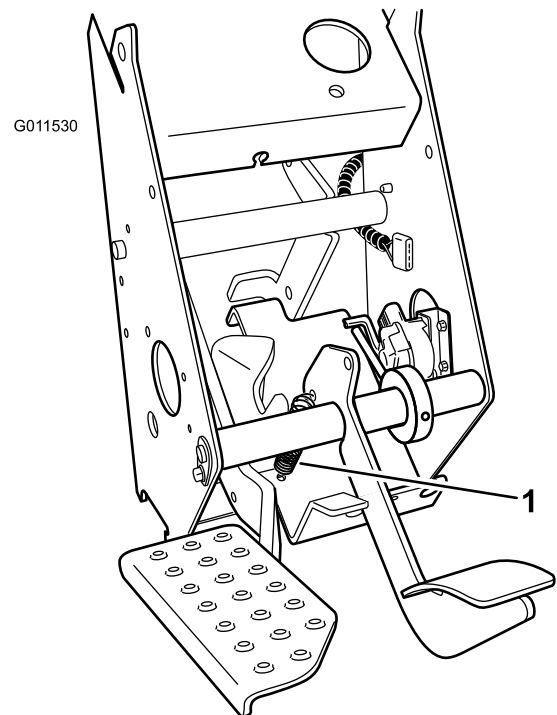

Figure 10
7. Install the spring to the accelerator pedal assembly to the pedal box (Figure 10).